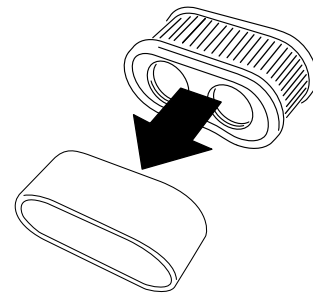

Figure 27
5. Remove the foam element from the paper element (Figure 27).